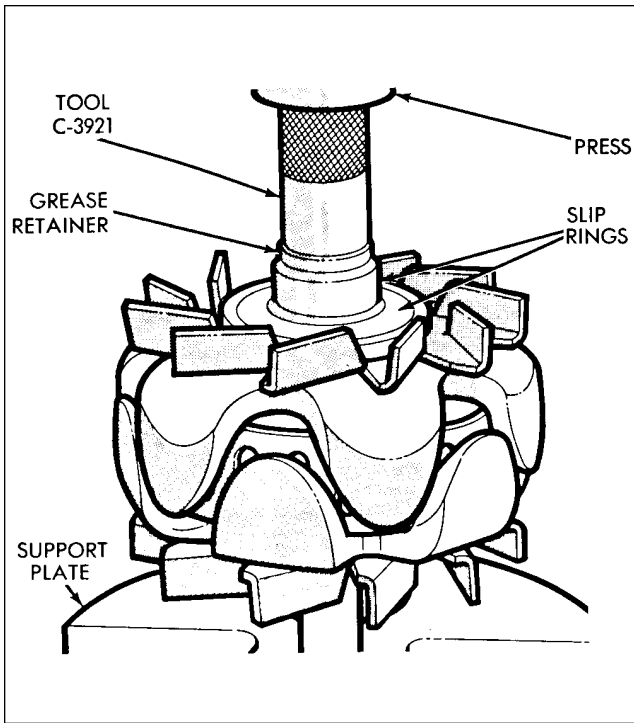

Figure 24-18. Installation of Grease Retainer
1. Position the grease retainer on the rotor shaft and press retainer on shaft with installer tool C-3921. The plastic retainer is properly positioned when the inner bore of the installer tool bottoms on the rotor shaft. (Refer to Figure 24-18.)